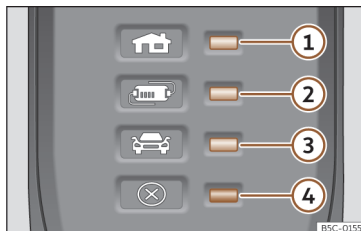

Fig. 70 On the charging cable for power sockets: Control lamps on the protection device.
>>> **Fig. 70:**
The electronic protection device >>> **Fig. 70** ensures that the charging connector does not receive current until it is plugged in to the vehicle's charging connector.
One or more control lamps >>> **Fig. 70** ①, ②
Display >>> Fig. 70	Meaning
①, ④ flashing	The housing connector has overheated.
②, ④ flashing	The protection device has overheated.
If the charging process continues with a lower current, both the operating indicator and the warning lamp >>> Fig. 70 ④ flash red.
- If it disconnects again, or the charging current reduces and the cause does not seem to be exposure to an external heat source, make sure that the green control lamp is flashing >>> Fig. 70. Visit a specialised CUPRA dealer or any SEAT network dealer to check the charging cable. Get an establishment that specialises in electrical installations to check the infrastructure connection.
If the red warning light ④ flashes or turns on without one of the control lamps >>> Fig. 70 ①, ② or ③ also turning on continuously on the status indicator, there is a fault.